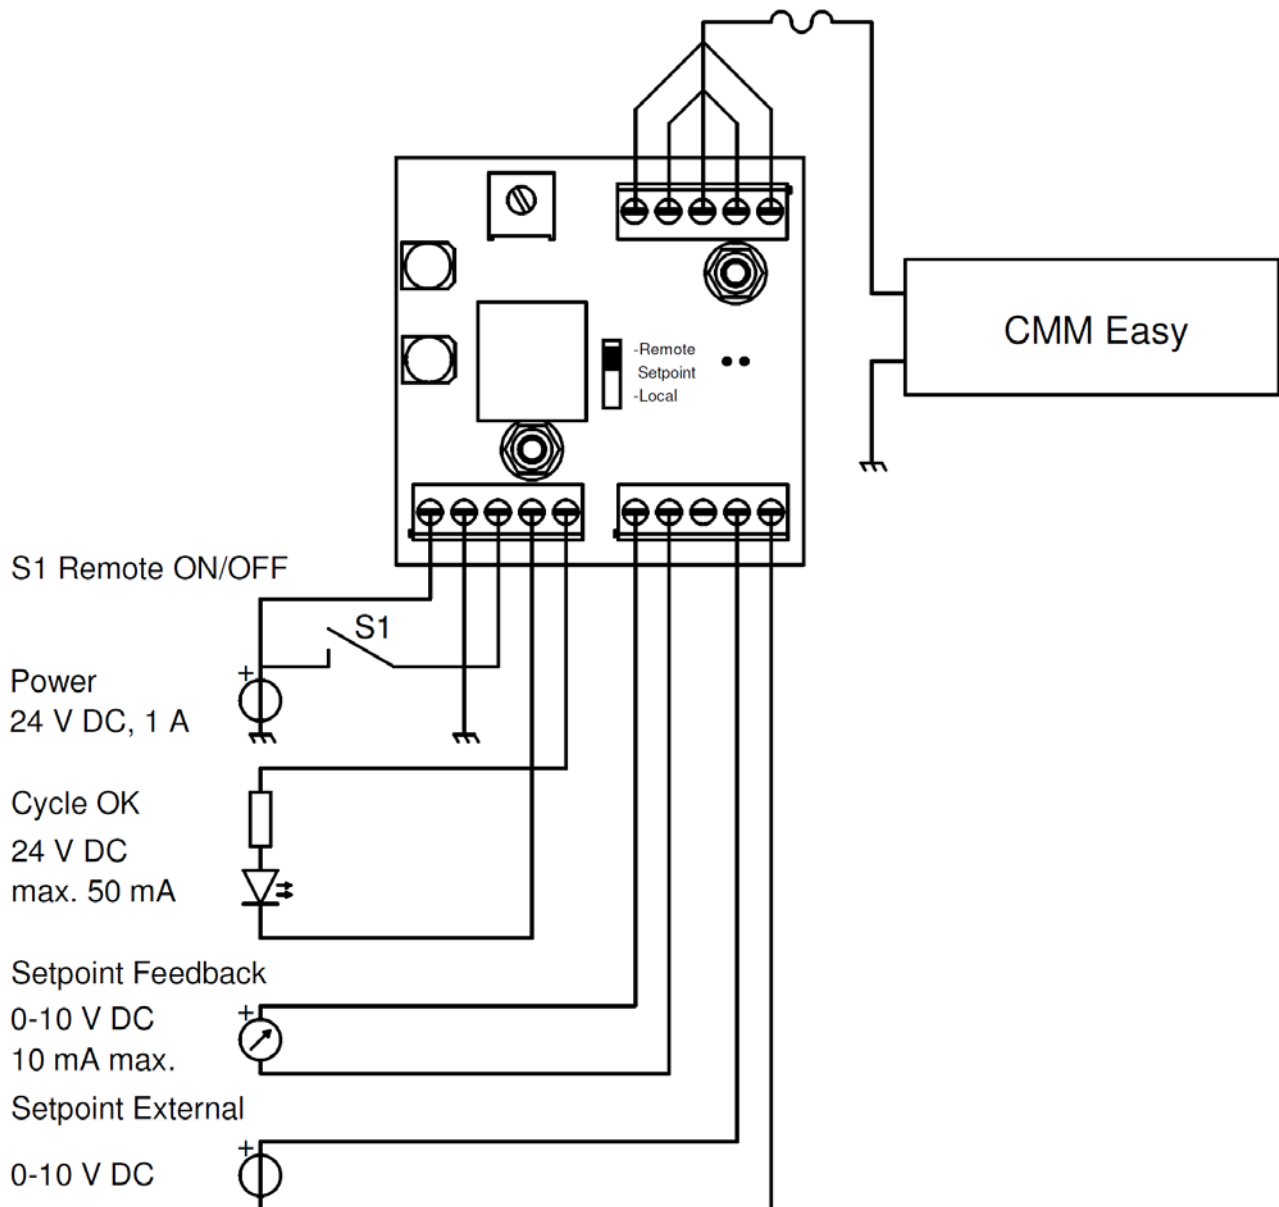

Fig. 8, wiring schedule External Control Kit Remote Setpoint 0-10 V
- For use with External Setpoint 0-10 V DC: connect the Control Kit according to fig. 8.